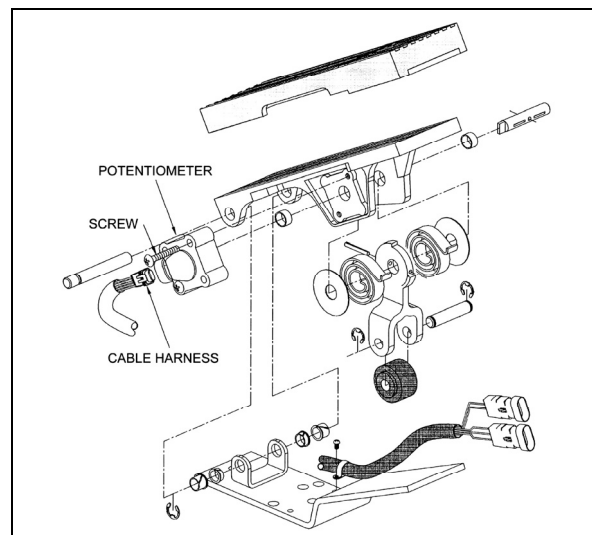

FIGURE 23: ELECTRONIC FOOT PEDAL ASSEMBLY 03035
3. Discard potentiometer (Fig. 23).